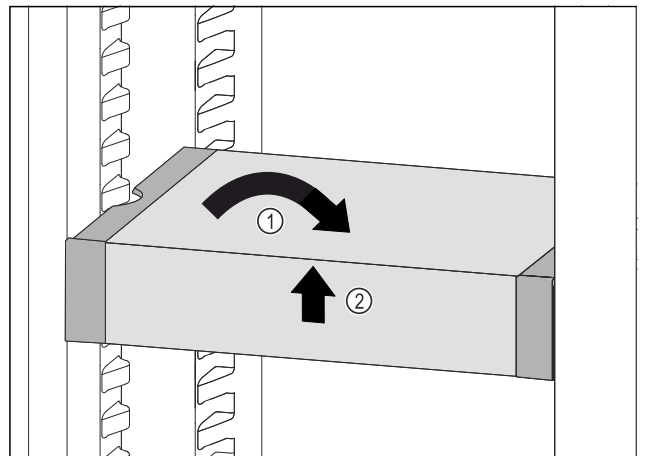

Fig. 208
- Set VarioSafe straight. Fig. 208 (1)
- Lift VarioSafe at the front. Fig. 208 (2)